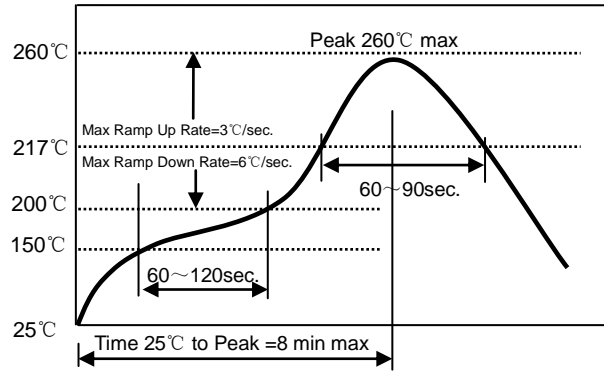

Fig.12.1-1
- Please refer to **Fig. 12.1-1**.